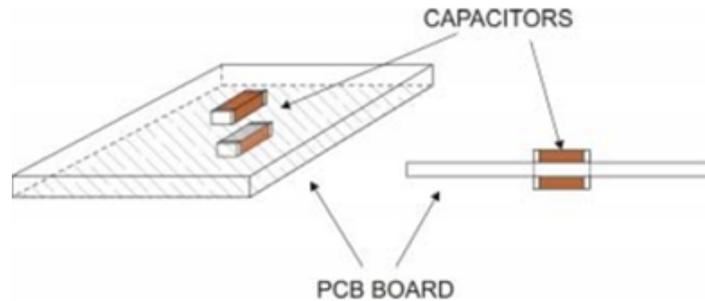

Figure 5. Capacitors on Each Side of a PCB to Create Vibration Cancellation
- Reducing noise by optimizing PCB layout.** The origin of the noise is the interaction of MLCCs with the PCB. Optimizing component placement on the PCB can be effective. Using a thicker PCB allows the sound frequency to shift due to weight change. Some articles also suggest placing the components at the edge of the PCB to lower the sound pressure level. Similarly, placing components symmetrically on top and bottom of the PCB can also help to reduce noise level, since the two vibrations will cancel each other out, due to the cancellation-of-vibration effect (Figure 5) when the voltage applies to both capacitors simultaneously.
Considering line-transient response as an example, an experiment was conducted using the TPS51622, one of TI's DCAP+™ Vcore controllers, by measuring the noise level with a sound meter when varying the output voltage change with fast (48mV/μs) and slow (12mV/μs) slew rates using the Intel voltage regulator (VR) tool. Sending an I²C command to the TPS51622 changes the output voltage from 0.5V to 1.5V, and the input-voltage ripple was measured shown in Figure 5.